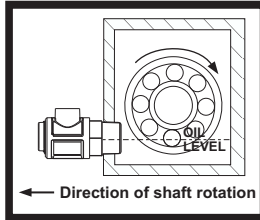

Fig. 1
1. Prior to installing the Watchdog Oiler, shaft rotation direction must be determined, typically indicated by an arrow on the casting of the equipment. Install oiler on the side of the equipment facing the direction of shaft rotation to prevent misfeeding of the Watchdog Oiler (see Fig 1).
5. Hand tighten Watchdog in a port where the centerline of the main body is at the optimum fluid level (Fig. 1).